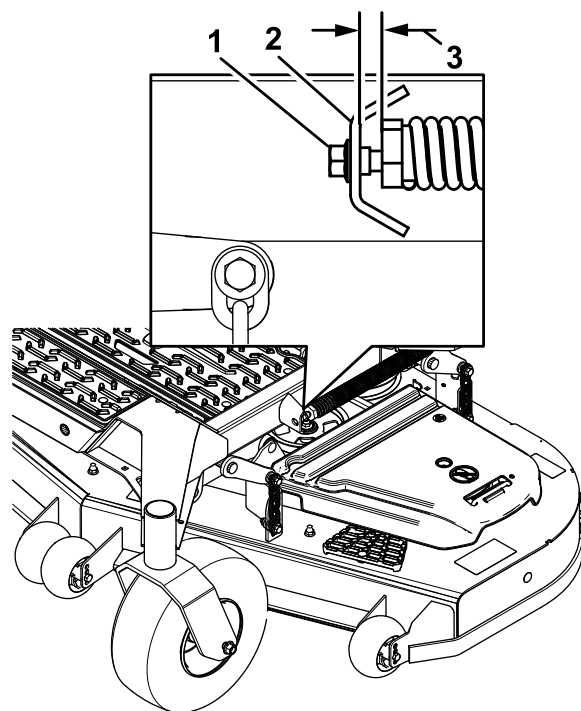

Figure 103
10. Slowly loosen the adjusting screw on the lift-assist spring until you can remove the screw (Figure 103).